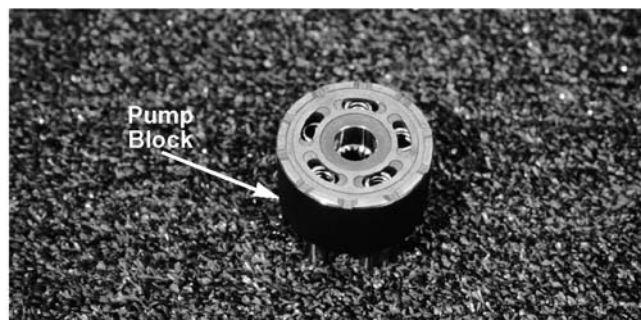

Figure 6-150
28. Inspect the pump block, piston seat areas, running surface, and splines for excessive wear or damage. See figure 6-150.